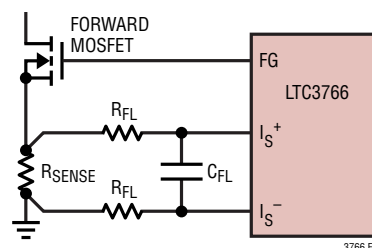

Figure 11. Using a Current Sense Resistor
When using a current sense resistor, the I_S^+ and I_S^- pins operate differentially and the maximum peak current threshold is approximately 75mV. Normally, the current sense resistor is placed in the source of the forward MOSFET, as shown in Figure 11. Depending on PCB layout and the shielding of the traces going to the I_S^+ and I_S^- pins, it is sometimes necessary to add a small amount of filtering as shown in Figure 11. Typically, values of $R_{FL} = 100\Omega$ and $C_{FL} = 200\text{pF}$ to 1nF will provide adequate filtering of noise pickup without substantially affecting the current loop response.
1. The accuracy of the current sense resistor and/or current sense transformer. For resistor sensing, the accuracy of the current sense resistor is normally 1%. For sense resistors less than 2mΩ, however, the parasitic inductance can cause a significant error in the sensed current. This error can be eliminated by adding an RC filter as shown in Figure 11.